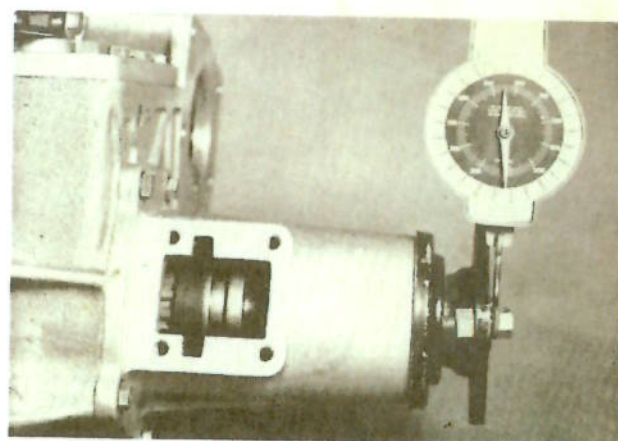

FIG. 20 - MEASURING THE TAPERED ROLLER BEARING PRELOAD.
38. Place the high/low clutch hub in neutral position, engage the front drive and temporarily install a cap bolt with nut in one of the four holes of the transfer joint retainer. Then, measure the bearing preload by hooking a spring scale to the cap bolt installed in the transfer joint retainer. (Fig. 20). The preload should be 4.7 - 5.9 kg (10.3 - 13.0 lbs.). If preload is incorrect, add or remove shims to get proper setting. Toyota adjust shims are listed in the Tools and Materials section.